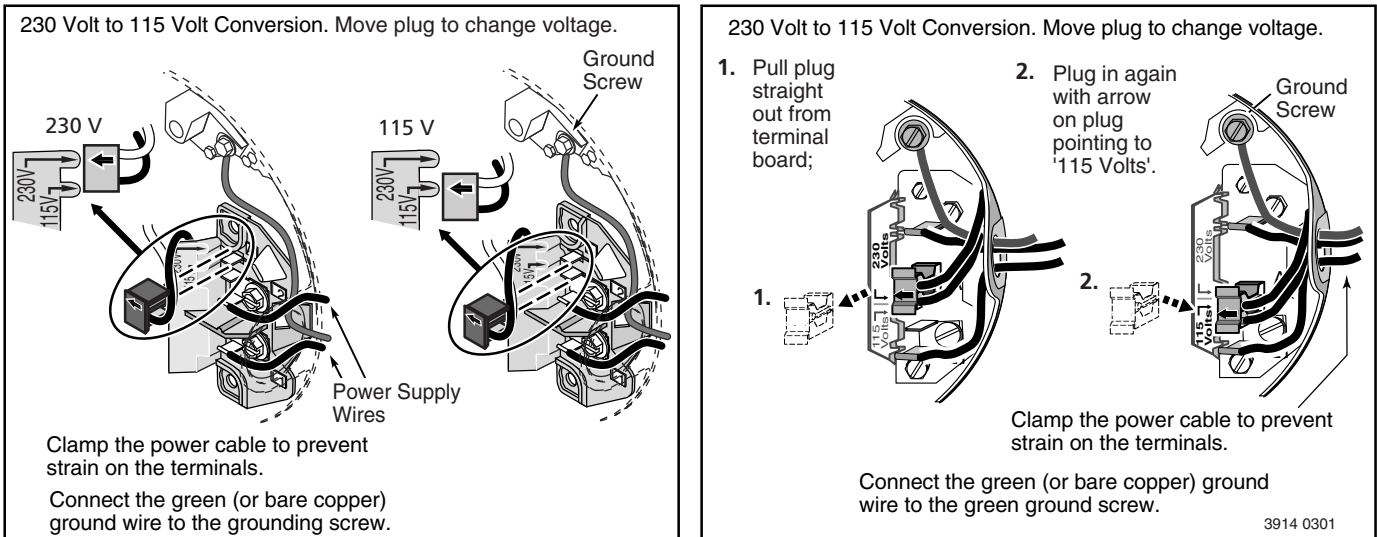

Figure 12 – 115/230V Dual Voltage Single Phase Wiring Diagram
- Step 7. Connect current carrying conductors to terminals L1 and L2 under motor canopy. When replacing motor, check wiring diagram on motor nameplate against Figure 12. If the motor wiring diagram does not match either diagram in Figure 12, follow the diagram on the motor.
IMPORTANT: 115/230 Volt single phase models are shipped from factory with motor wired for 230 volts. If power supply is 115 volts, remove motor canopy and reconnect motor as shown in Figure 12. Do not try to run motor as received on 115 volt current.